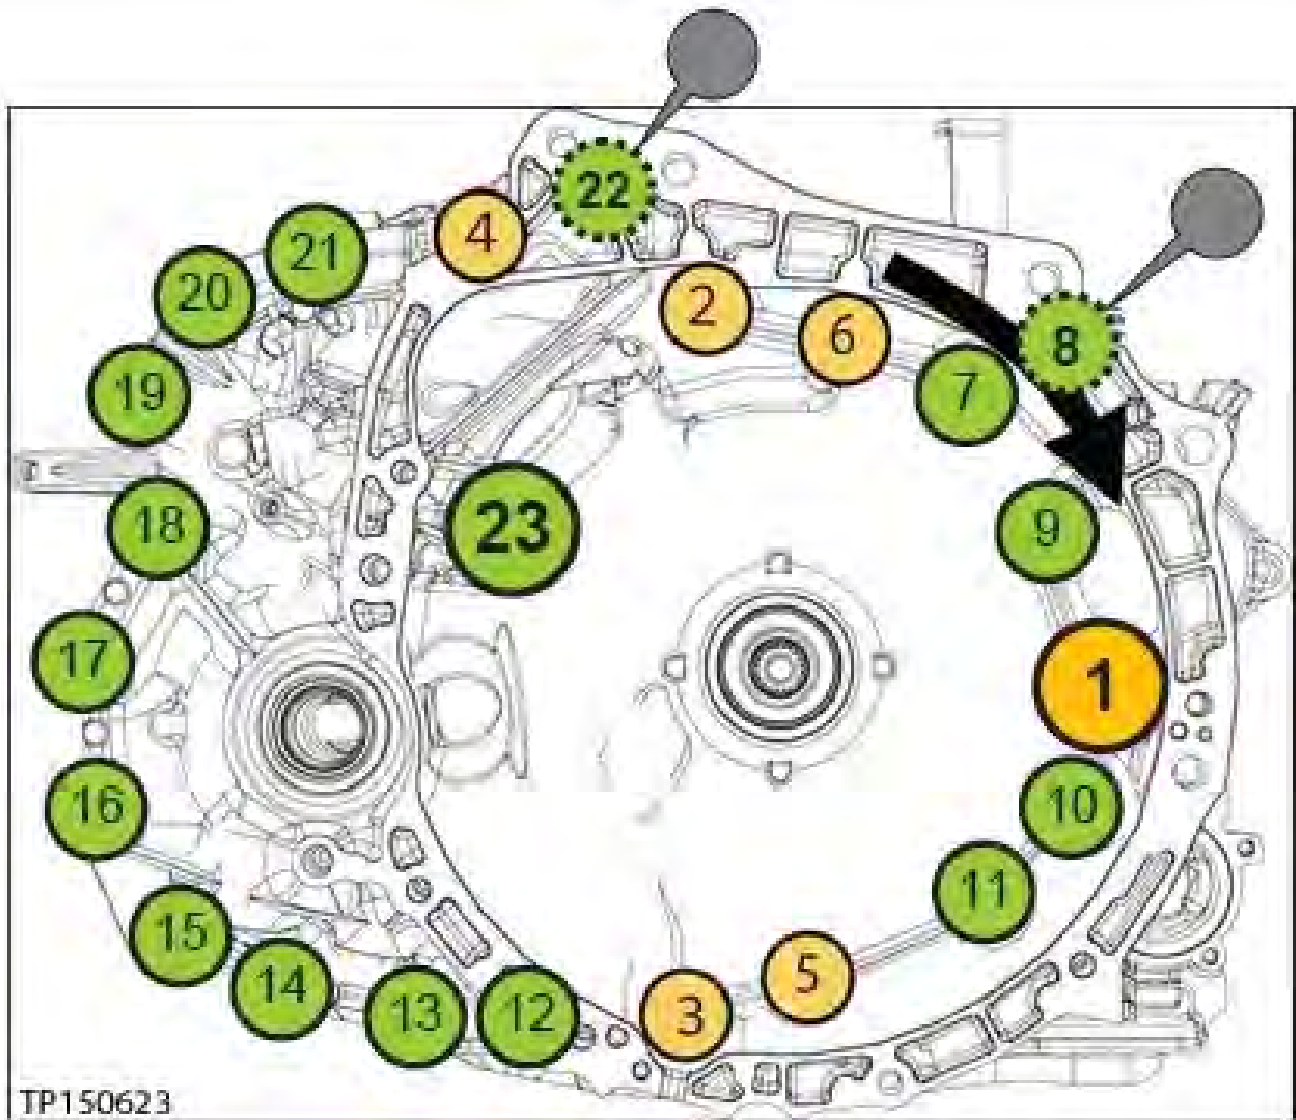

Figure 149
- Install the twenty three (23) new bolts.
- a. Torque the first six (6) bolts with symbol  in numbered sequence (Figure 149).
- Make sure to torque the bolts in sequence (Figure 149).